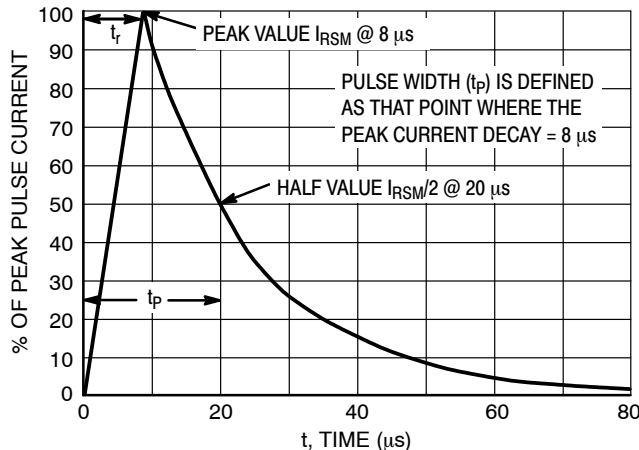

Figure 5. 8 X 20 μ s Pulse Waveform
- Surge current waveform per Figure 5.